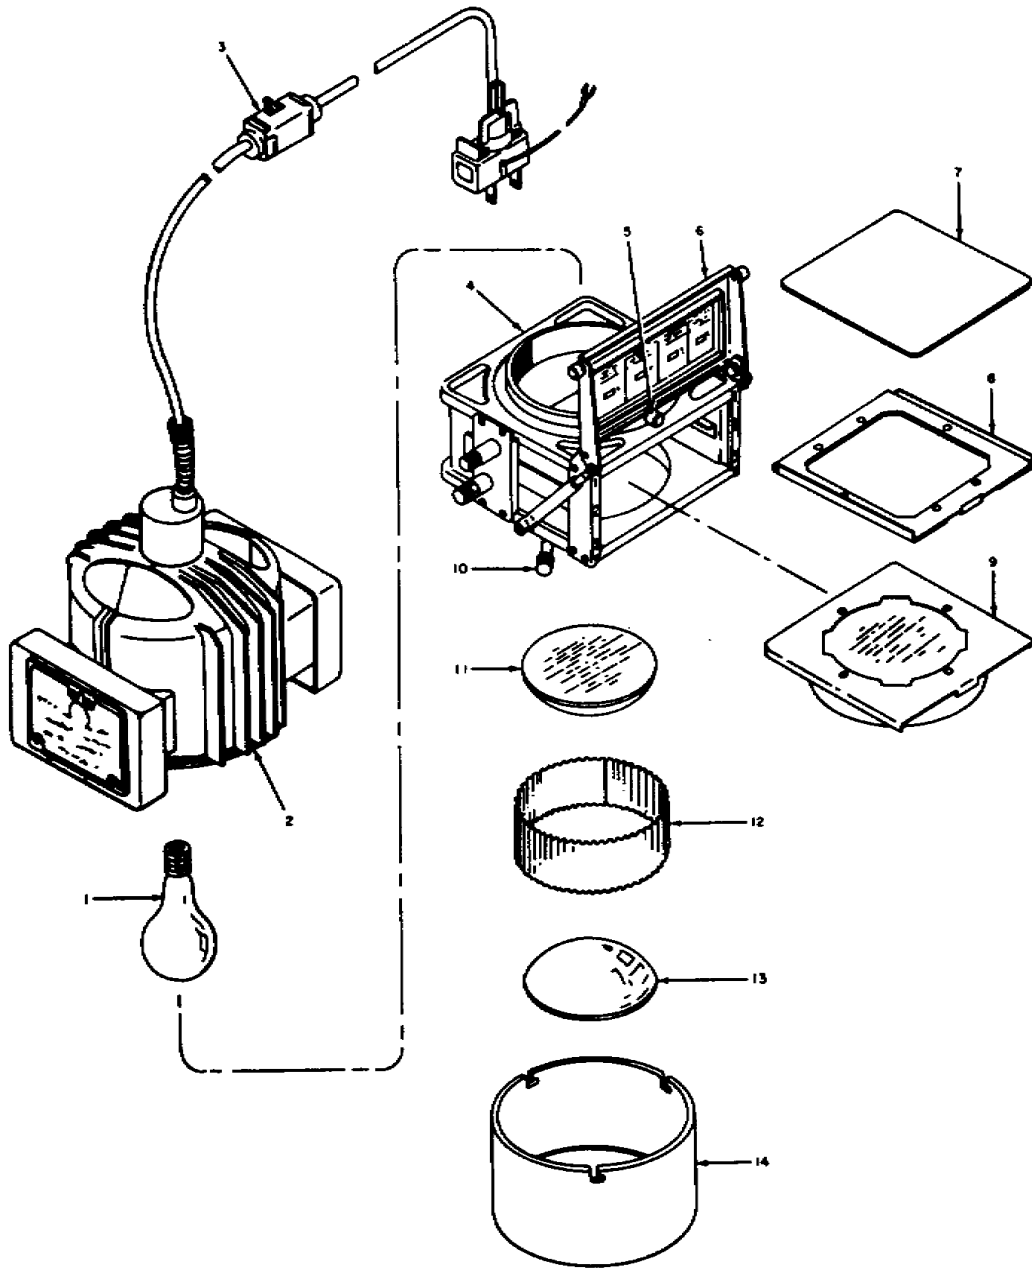

FIGURE 2-15. Lamp house assembly and condenser lens set disassembled.
a. Printer, lamp, replacement (figure 2-15).
(1) Loosen the thumbscrews (5).
(2) Remove the upper lamp house (2).
(3) Reach inside the upper lamp house (2) and unscrew the printer lamp (1).
(4) Check the condition of the light cone (reflector) inside the upper lamp house (2). Remove dust or dirt with a clean, lint-free cloth.
(5) Replace the printer lamp (1), and position the upper lamp house on the variable condenser lens housing (4).
(6) Tighten the thumbscrew (5).
(2) Remove the condenser lens set (11 through 14, figure 2-15) by loosening the two knurled screws (10) and turning the condenser lens set slightly to release it.
(3) Place a lens tissue on the upper condenser lens (11) and, with the palm of one hand placed firmly over the lens tissue, tip the condenser lens set so that the upper condenser lens falls into hand.
(4) Turn the condenser lens housing (14) right side up and remove the lens separator (12) and the lower condenser lens (13).
(5) Clean and inspect the condenser lenses. Replace defective lenses.
(6) Replace one condenser lens with the plano (flat) side out, and then replace the lens separator (12) and the other condenser lens in the housing. Be sure that the plano side of each lens is out. Handle the lenses by the edges only.
(7) Position the condenser lens set under the variable condenser lens housing (4) so that the bayonet-type notches engage the knurled screws (10). Tighten the screws.
(8) Lower the lamp house assembly by releasing the control lever from the control lever stop.